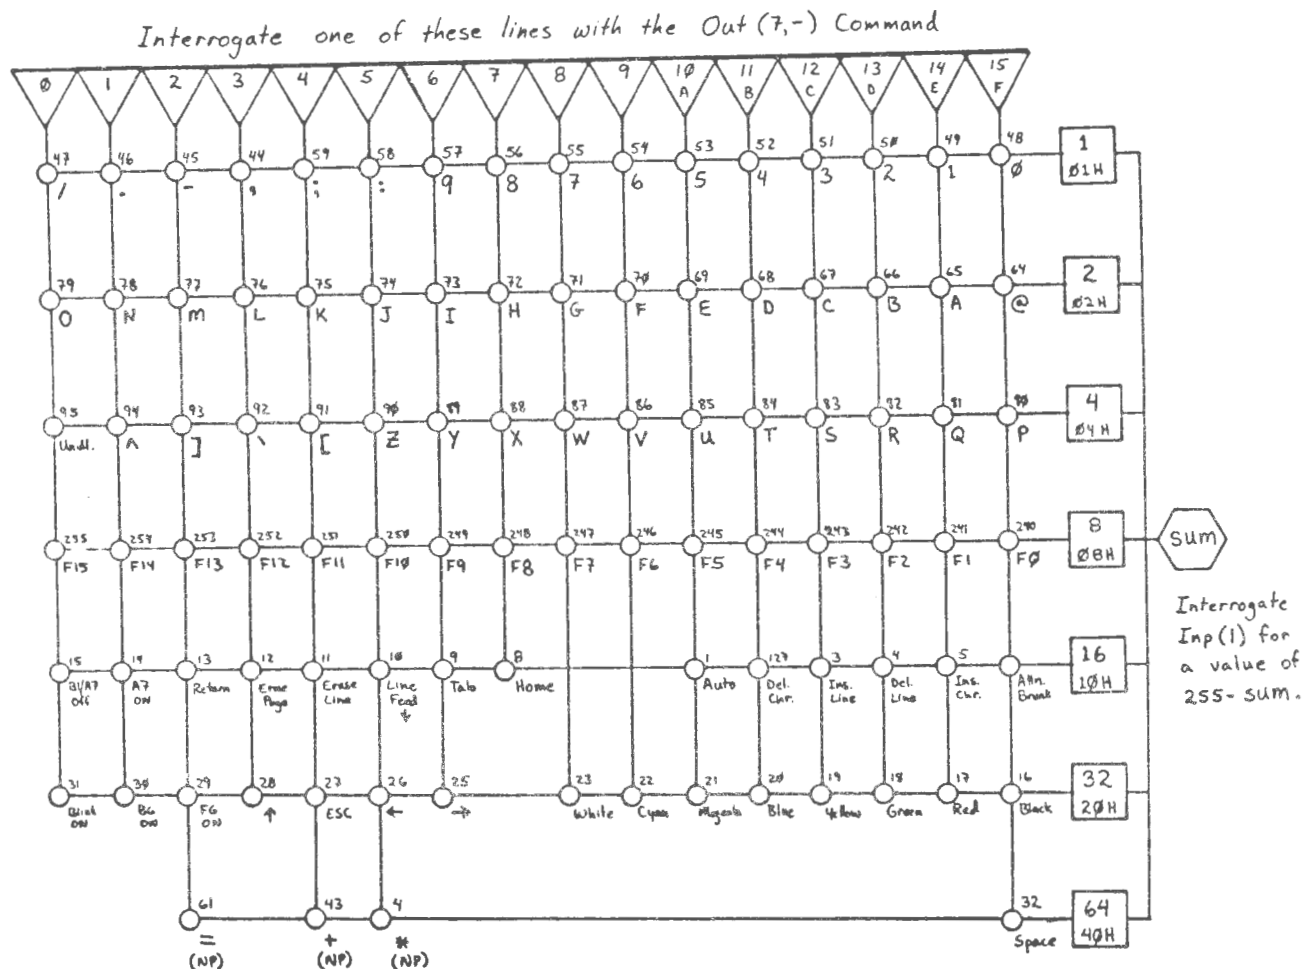

Figure 1. Keyboard scanning lines and decrement values.
To understand keyboard reading you must look at the keyboard from the computer's point of view. Figure 1 is a schematic drawing of just that. To understand this article you should rely heavily on this Figure. In addition, it is very important to note that this method only determines whether or not a particular key is physically depressed at any one time. It does not matter whether that key is in a shift, control or command status. That is why on the schematic you may not see some keyboard characters that appear on your key caps. In all cases I have listed the non-shifted, default characters represented by a key closure.
As depicted in Figure 1, the keyboard is accessed by 16 lines in, any of which may be interrogated individually, and one line out which will tell you the status of the keys along the interrogated line. The keyboard is interrogated through port 7 using the OUT 7,"line number" statement. For example, the statement OUT 7,10 will send a signal through line 10 to interrogate the closure/non-closure status of the 5, E, U, F5, AUTO and MAGENTA keys. Note that only one of the 16 lines may be interrogated at any one time.
After the keyboard is interrogated with OUT 7,"line number", you must then check for an answer from the keyboard. This is done by checking the value in port number 1 by means of the INP(1) statement. The value is retrieved using the form X=INP(1), and X will be in the range 128-255. Note that in Figure 1 each of the horizontal grid lines is assigned a value in the box on the far right. These values are 1, 2, 4, 8, 16, 32 and 64. (Notice any relationship among those numbers?) When a key is closed along an interrogated vertical line (i.e., OUT 7,"line number"), the ultimate result is that the value 255 is decremented by the value assigned to the corresponding horizontal grid line. Now an example. Suppose you interrogate line 10 as described above with the OUT 7,10 statement. If, for example, the E and F5 keys are both closed, then the corresponding value of X that you retrieve with the X=INP(1) statement will be 245. That is, 2 for the E closure and 8 for the F5 closure for a sum of 10, which is subtracted from 255, resulting in 245. I'll talk more about simultaneous closures later.